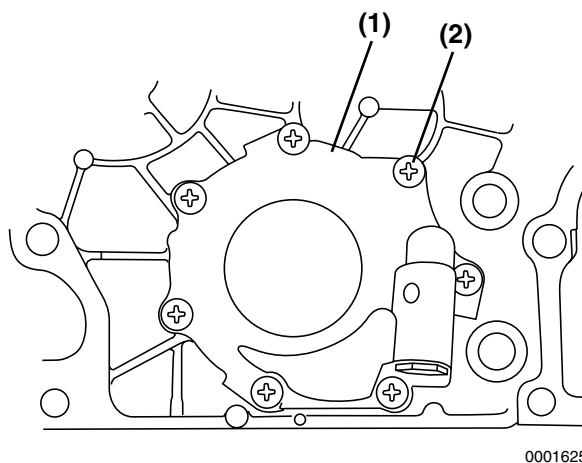

Figure 9-5
3. Remove the seven oil pump cover (**Figure 9-5, (1)**) screws (**Figure 9-5, (2)**).
4. Remove the oil pump cover (**Figure 9-5, (1)**) from the gear case cover.